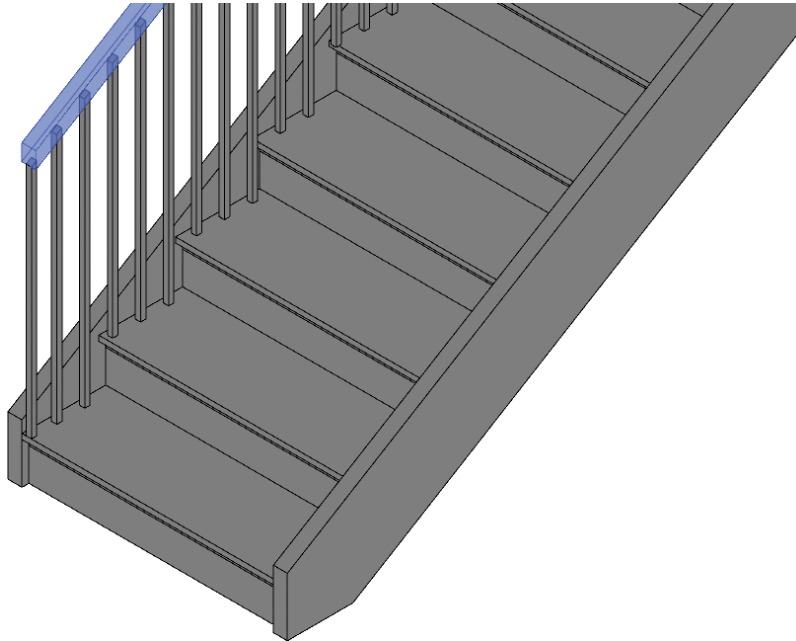

FIGURE 4.24 Select the top rail.
3. Click to select the top rail (Figure 4.24).